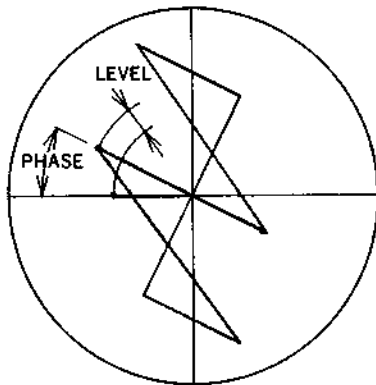

Fig. 7-23.
- 2) Adjust the level as shown in Fig. 7-23 with RV201.
- 3) Adjust the phase as shown in Fig. 7-23 with LV201.